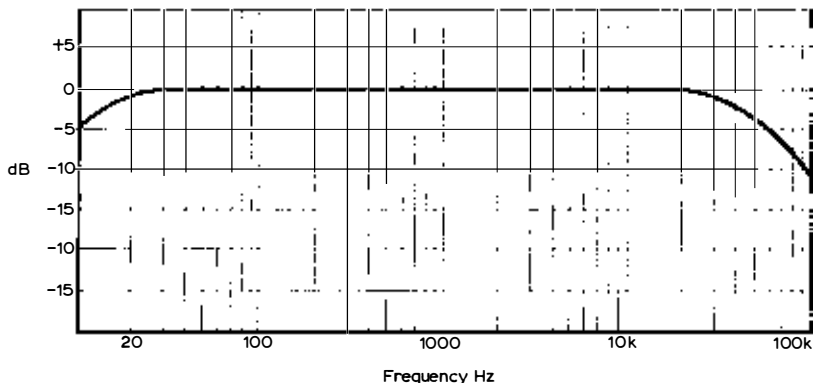

Fig. 2.10: Example frequency response which can be defined as 15Hz to 45kHz -3dB (see text).
A hi-fi amplifier should boast a virtually flat frequency response from at least 20Hz bass to 20kHz treble. The response is usually plotted in the form of a curve relative to 0dB at 1kHz, as shown in Fig. 2.10. Here the output remains essentially constant from 20Hz to in excess of 20kHz; at 10Hz it is 5dB down and at 100,000Hz 10dB down!
the output has fallen by 3dB ref. 0dB at 1kHz. In Fig. 2.10 this would be between about 15Hz and about 45kHz. A plotted curve is better, though, since it shows unambiguously how the output rises and/or falls between the two-3dB points.